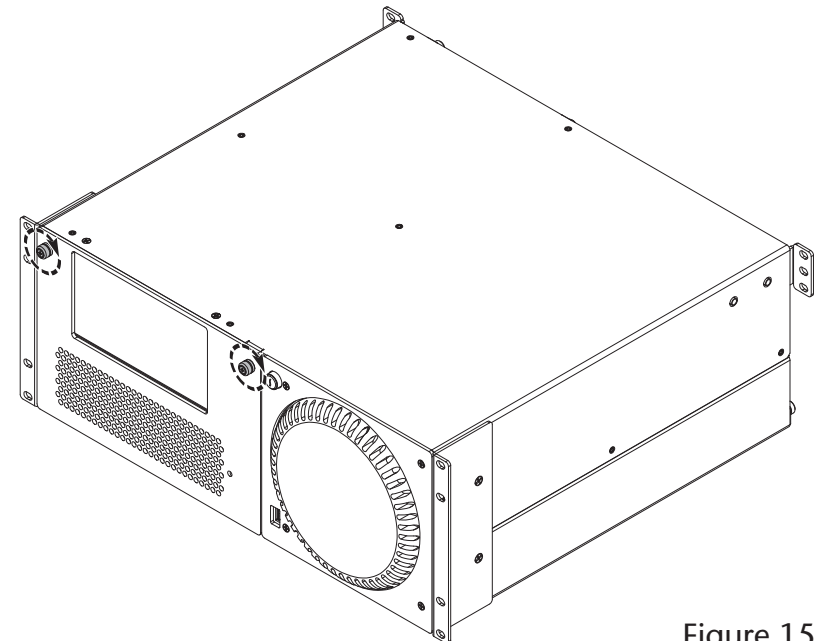

Figure 15
4. Secure the PCIe card expansion module to front of the rackmount enclosure by turning the two thumbscrews clockwise (**Figure 15**).